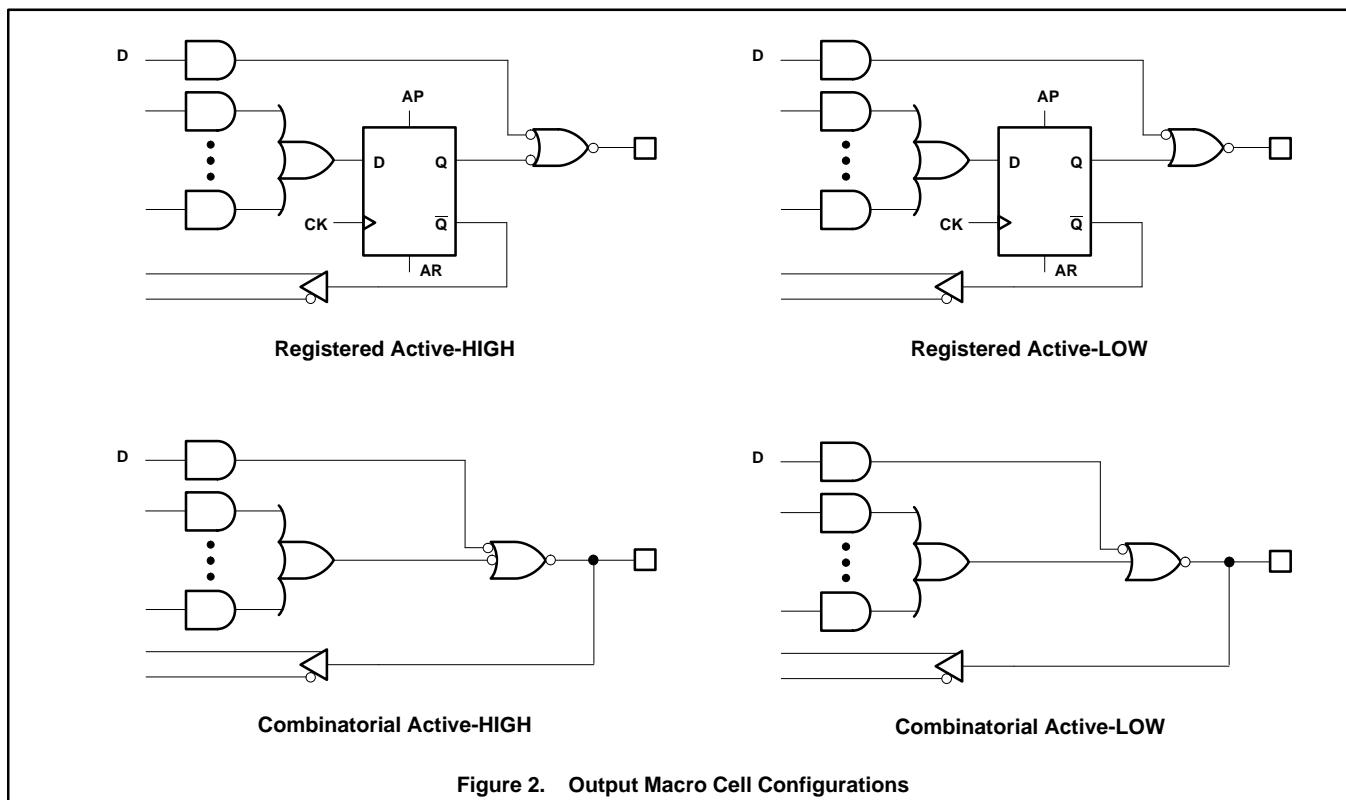

Figure 2. Output Macro Cell Configurations
Shown in Figure 2 are the four possible configurations of the output macrocell using fuses S_0 and S_1 . As seen, the output can either be registered Active-HIGH/LOW with feedback or combinatorial Active-HIGH/LOW with feedback. If the registered mode is chosen, the feedback from the \bar{Q} output to the AND array enables one to make state machines or shift registers without having to tie the output to one of the inputs. If a combinatorial output is chosen, the feedback gate is enabled from the pin and allows one to create permanent outputs, permanent inputs, or I/O pins through the use of the output enable (D) product term.